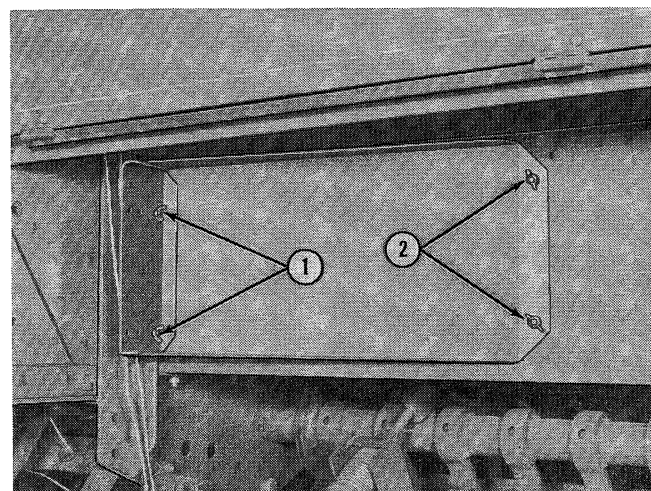

Figure 26
The feed platform access door, Figure 26, provides an additional means to vary the size of the feed house opening when the baler is used in light crop conditions. In addition, the door provides a convenient access to the feed platform area when it may be necessary to remove the baler knives for sharpening or remove material from the bale chamber.
When the baler is used in light crop conditions, position the door forward as required to reduce the size of the feed opening. During normal crop conditions, the door should be positioned rearward as shown in Figure 26. Adjust the door as follows:
1. Remove the bolts, lock washers and wing nuts at (1), Figure 26.
2. Loosen the wing nuts at (2) and adjust the door forward or rearward as required.
3. Install the bolts, lock washers, and wing nuts at (1), and tighten the wing nuts at (2).